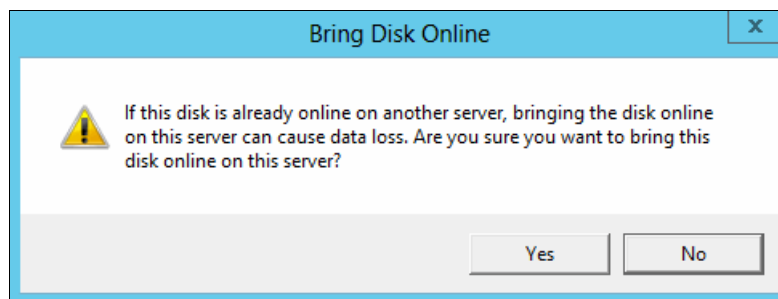

Figure 5-33 Confirm that you want to bring the disk online
- The window shown in Figure 5-33 opens. Click **Yes** to confirm that you want to bring the disk online on this server.